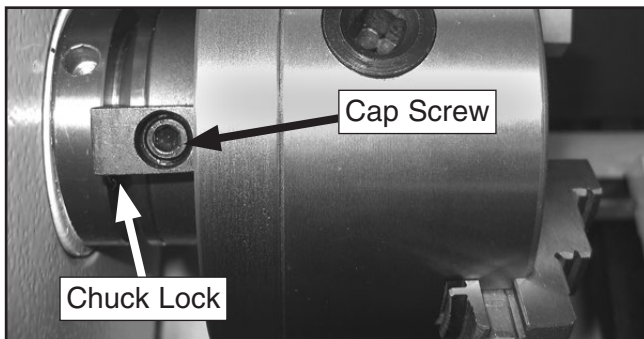

Figure 24. Location of chuck lock and cap screws.
3. Remove the cap screws and chuck locks (see **Figure 24**).